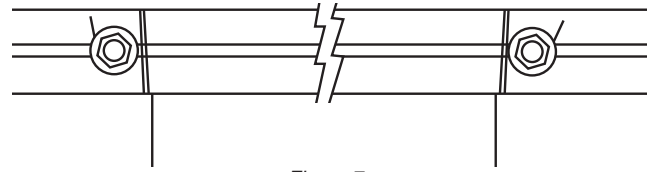

Figure 7
- ⑬ Repeat the above step for the other side of the draw cable. However, with this side, pull the hem-bar up so that the fabric retraction device “unlocks.” Be careful NOT to let the hem-bar move around the roller until the installation is complete. This last end of the draw cable should be attached so that both ends have 1.5 revolutions around the operator roller when the hem-bar is at its lowest possible position (see Fig. 7).